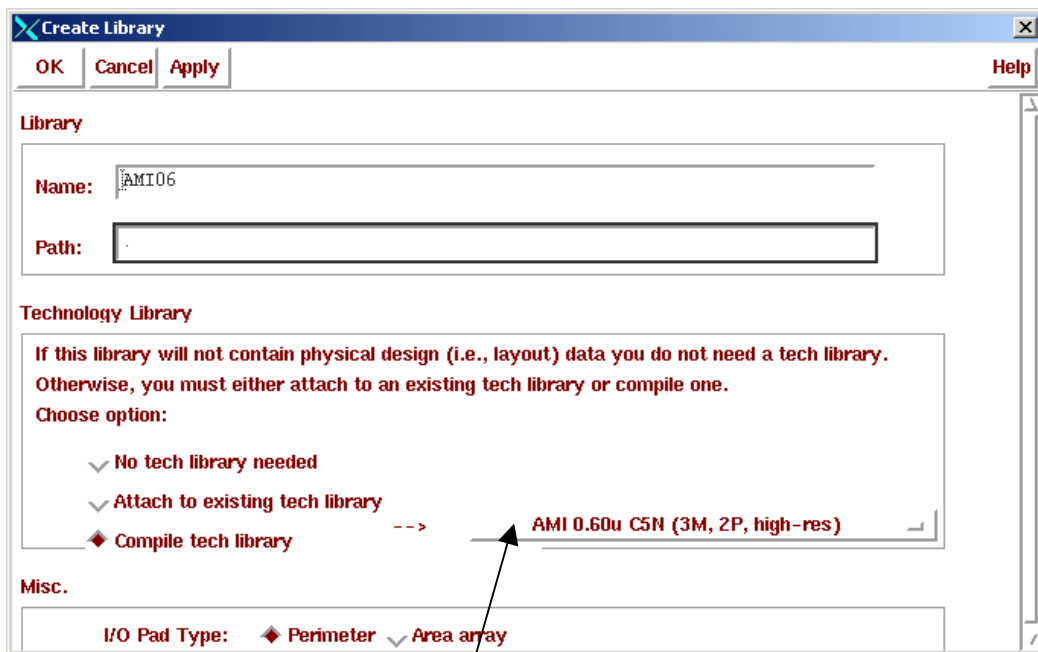

Figure 8: Creating a Library
1. Goto the library manager popup and goto: file... New... library. A pop-up like Figure 8 should appear.
2. Fill out the pop up exactly according to Figure 8. Make sure to click on compile tech library.